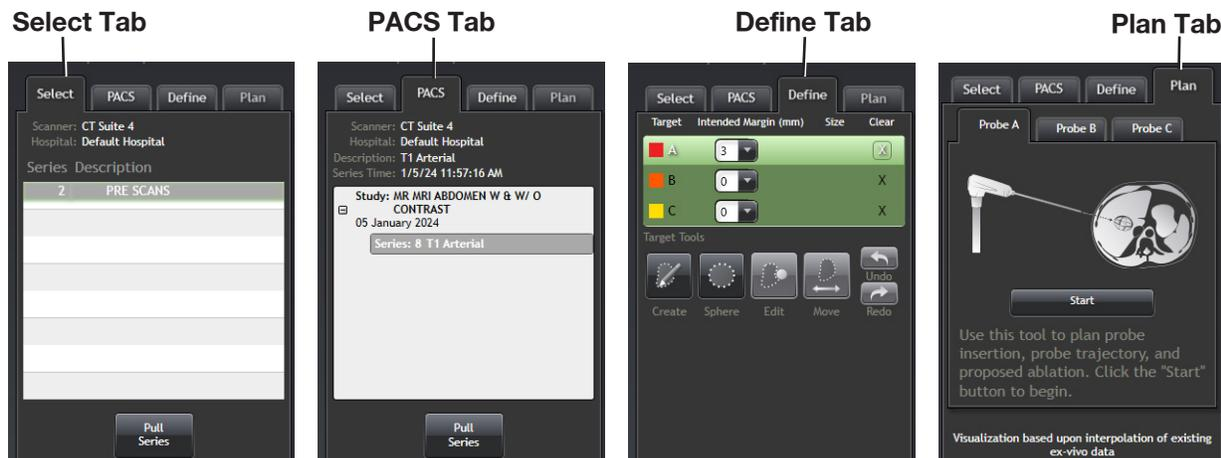

Figure 3-7: Tabs under the Define Targets Step.
Figure 3-7 depicts screenshots of the 4 tabs under the **Define Targets** step. A similar tab organization is followed under the **Evaluate Probe(s)** and the **Evaluate Treatment** steps. For the **Define Targets** step, these 4 tabs include tools that allow the user to select and download CT image series (**Select** and **PACS** tabs), define target lesions (**Define** tab), and plan ablations (**Plan** tab) (see detailed description under the *Define Targets STEP* Section below).
- b. The **Steps** menu displays the primary screens of the ABLATE-IQ Software (Choose Scanner, PACS Images, Evaluate Probe(s), Evaluate Treatment, and Create Report (Figure 3-7).